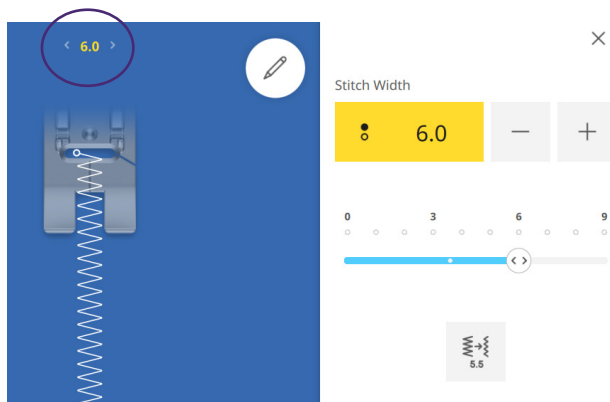

Fig. 5
2. Change the stitch width by turning the upper Multi-function Knob to the desired width. You can also select the Stitch Width icon (Fig. 5), which opens a window with additional ways to change the stitch width.